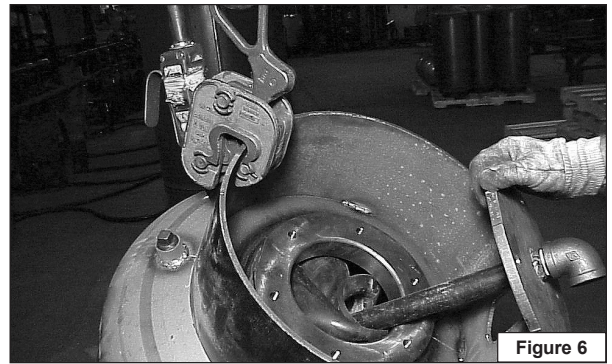

Figure 6
16. Insert bladder neck into bottom of tank. (Figure 6).